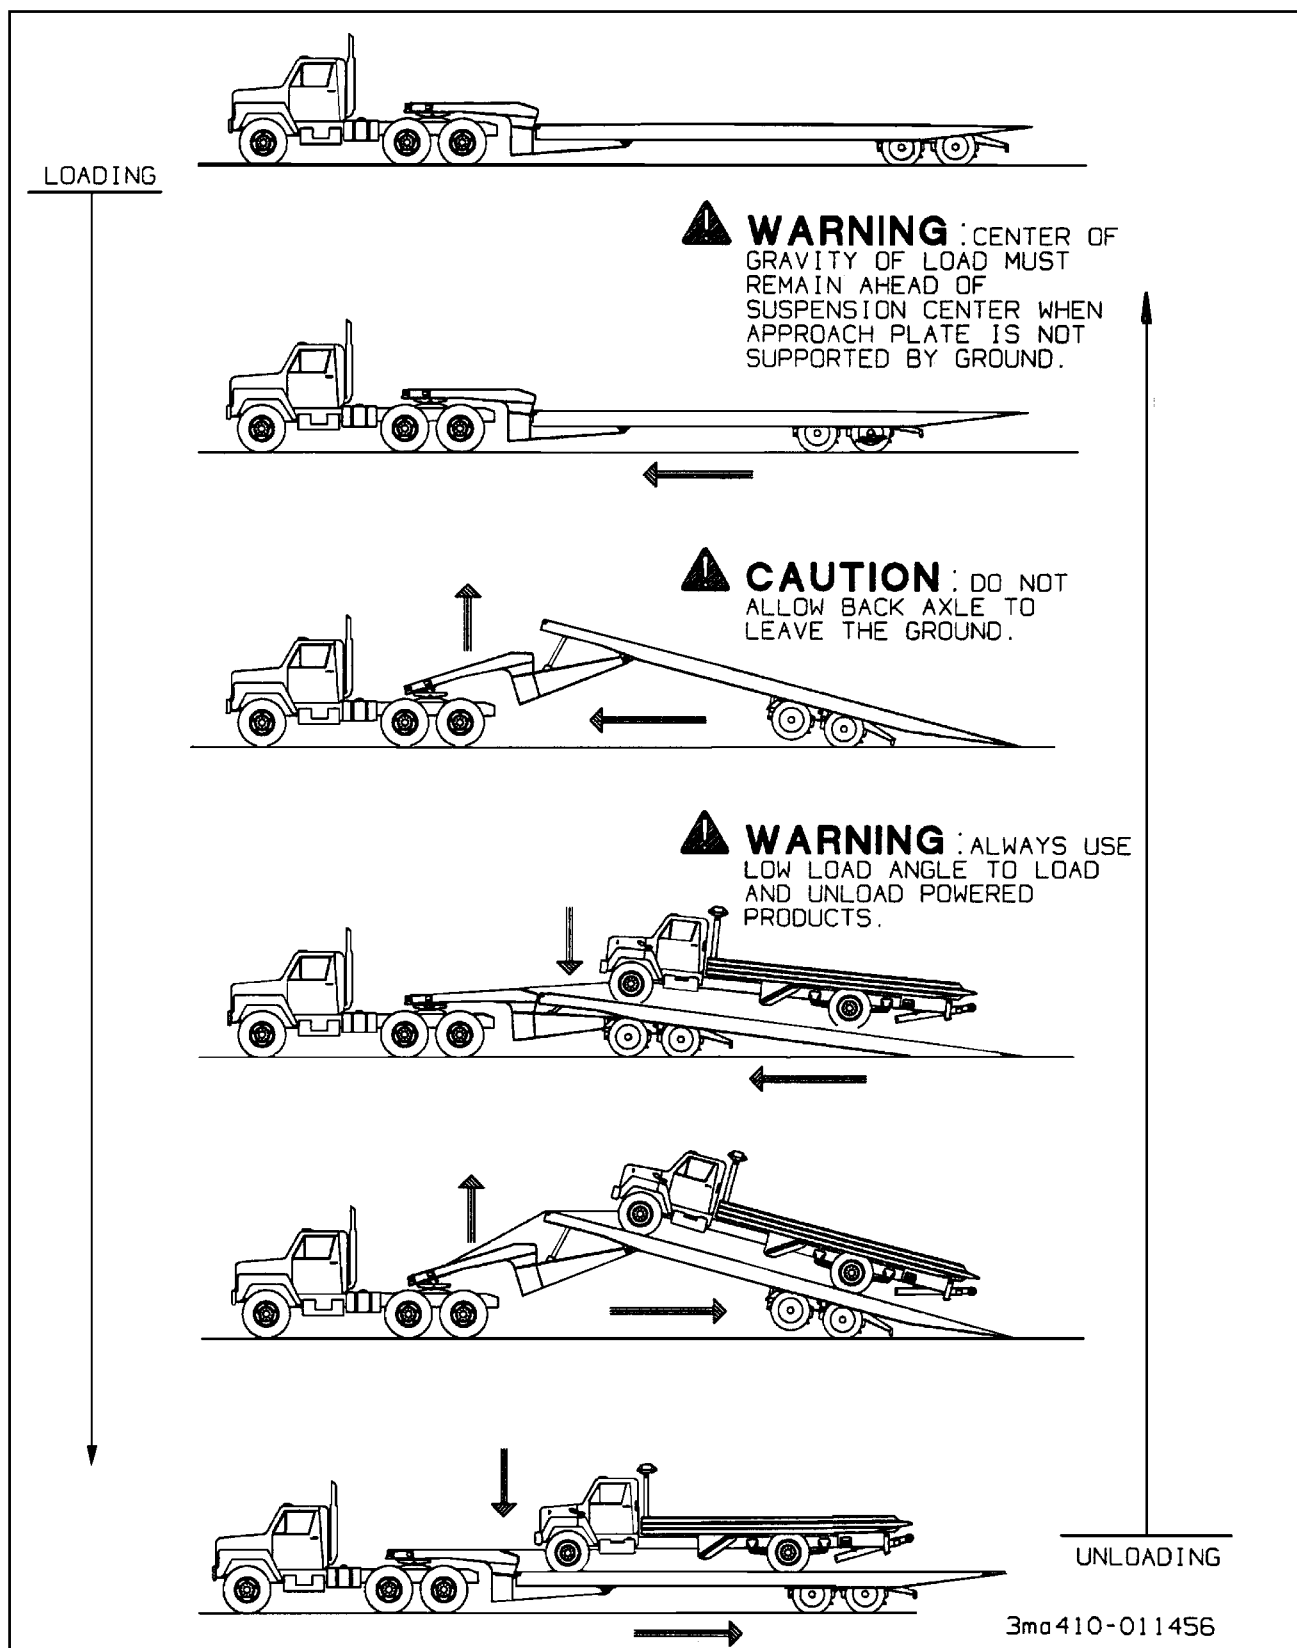

Figure 3-7 Steps for Loading and Unloading
- 3-13.2 Park the tractor/semitrailer in a straight line on level even surface. Set the tractor brakes and release the semitrailer brakes (See Figure 3-7).
**3-14.2** Park the tractor/semitrailer in a straight line on a level even surface (**See Figure 3-7**). Set the tractor brakes and release the semitrailer brakes.